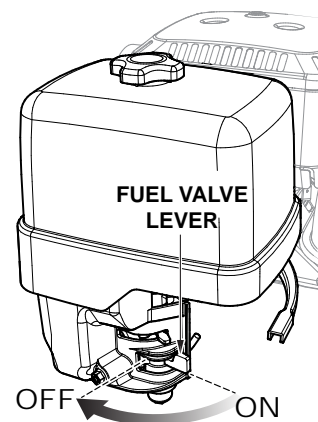

Figure 30. Fuel Shut-Off Lever (OFF)
3. Place fuel shut-off lever (Figure 30) in the **OFF** position.